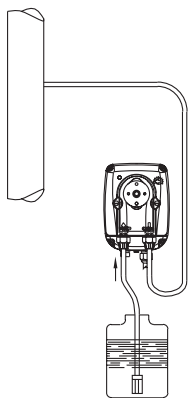

Fig. 5
- c. - Locate the pump as shown in fig. 5 bearing in mind that it may be installed either below or above the level of the liquid to be dosed, though the level difference should not exceed 2 meters. In case of liquids that generate aggressive vapours, **don't** install the pump above the storage tank unless the latter is hermetically sealed.